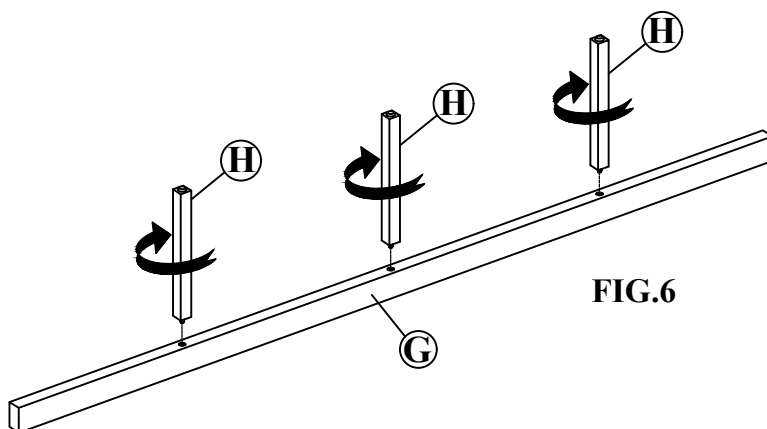

FIG.6
STEP 6: Attach the Slat Support Legs (H) to Slat Support Bar (G) as shown in FIG.6